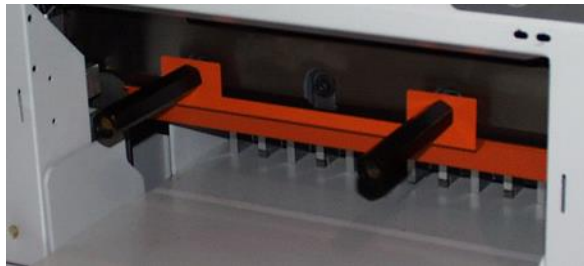

Figure 16
3. Remove the knife bolts from the two slotted knife bar holes and replace with the knife lifter assembly (Figure 16). Tighten the lifters to hold the knife in place, and then remove the remaining knife bolts.